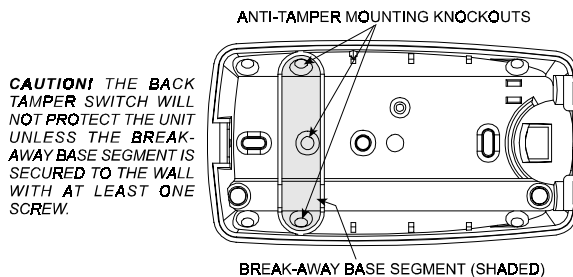

Figure 5. Anti-Tamper Break-Away Base Segment
**Attention!** The unit has a special tamper switch under the PCB. As long as the PCB is seated firmly within the base, the switch lever will be pressed against a special break-away base segment that is loosely connected to the base (Figure 5). **Be sure to fasten the break-away segment to the wall.** If the detector unit is forcibly removed from the wall, this segment will break away from the base, causing the tamper switch to open. **It is advisable to pierce the anti-tamper knockouts from within the base outward, while pressing the rear surface of the break-away segment against a piece of wood.**